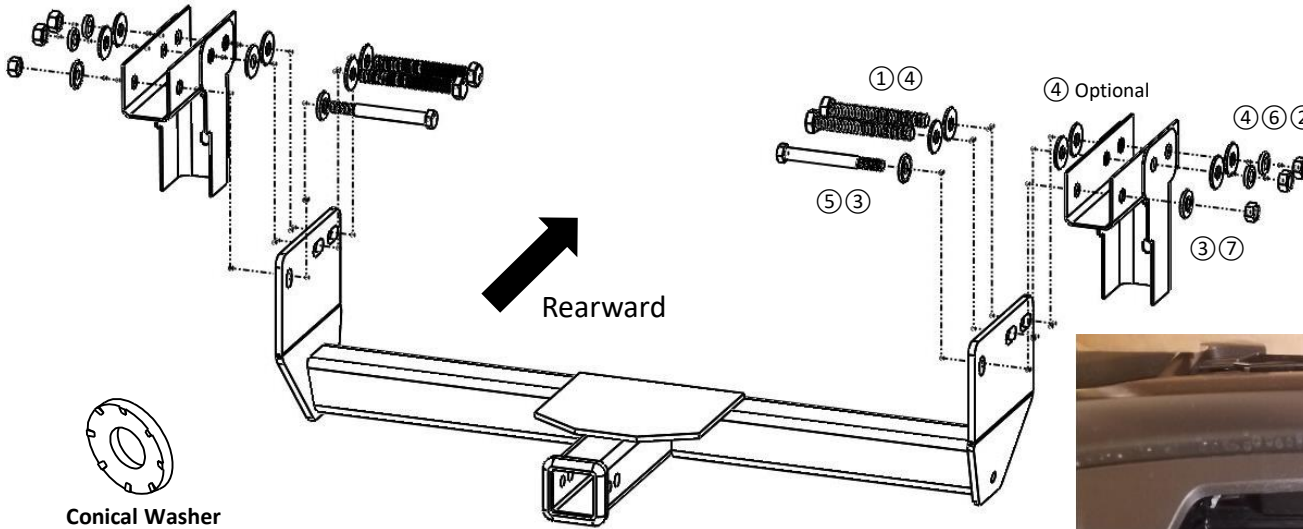

Figure 1
- Install hitch** – Raise the hitch and loosely secure it at forward holes on the chassis with (1) M12 bolts, (2) conical washers, and (1) M12 nut ⑤③③⑦, both sides, see **Figure 1**. Install (2) M14 bolts, (4) flat washers, (2) lock washers and (2) M14 nuts ①④④⑥② with bracket and chassis, both sides, see **Figure 1**.
Note: If there is a gap between hitch bracket and mounting surface, use (1) extra flat washer ④ on both M14 bolts, see **Figure 1**.
- 3. Install hitch** – Raise the hitch and loosely secure it at forward holes on the chassis with (1) M12 bolts, (2) conical washers, and (1) M12 nut ⑤③③⑦, both sides, see **Figure 1**. Install (2) M14 bolts, (4) flat washers, (2) lock washers and (2) M14 nuts ①④④⑥② with bracket and chassis, both sides, see **Figure 1**.